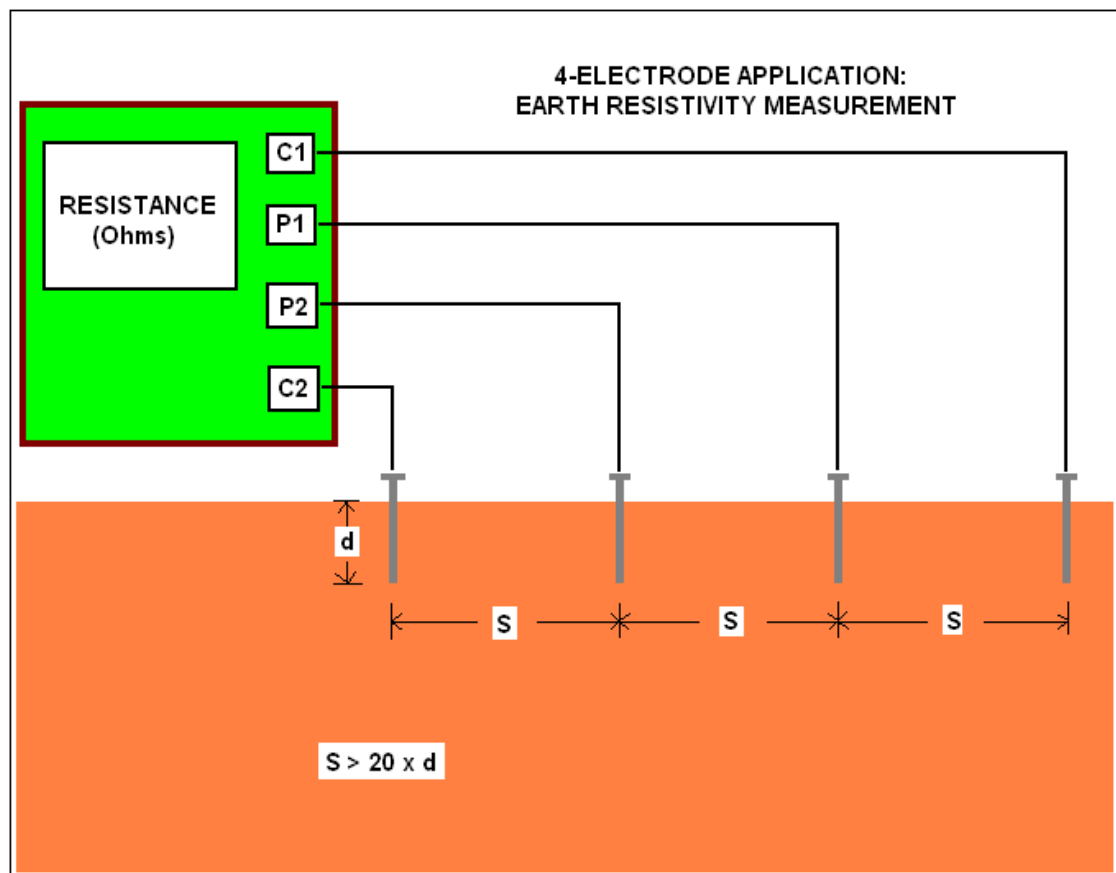

Figure 1
distance and are evenly spaced in a straight line. A schematic of this arrangement is illustrated in Figure 1 below.
The MILLER-400D can be used in conjunction with M. C. Miller's 4-lead (color-coded) test reel (catalog # 44700) and four heavy-duty (stainless steel) electrodes (soil pins) – catalog # 44720. The test leads are connected to the MILLER-400D as shown in Figure 1. With this arrangement, the MILLER-400D displays the earth's average resistance to a depth equal to the electrode spacing (S), based on the magnitude of the current flowing between terminals C1 and C2 and the voltage dropped between terminals P1 and P2. **Note:** For load resistances $>1\text{M}\Omega$, in addition to internal meter errors, errors associated with test lead proximity can also be significant (please see Appendix 3 for details).